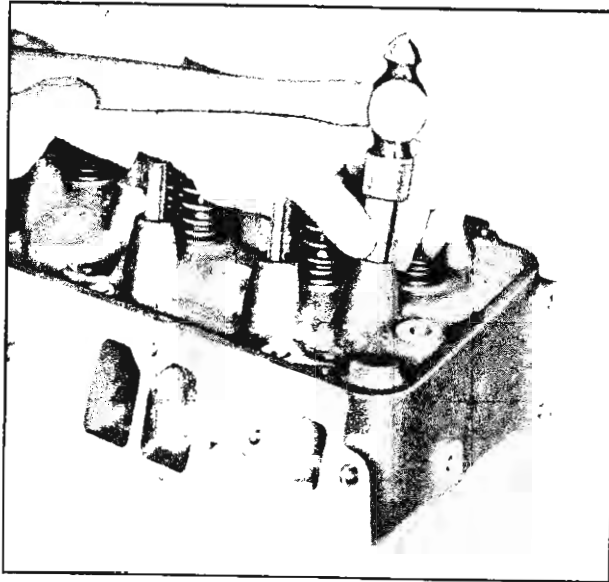

Fig. 125—Installing Valve Rocker Stud
3. Coat press-fit area of stud with hypoid axle lubricant. Install new stud using Tool J-6880. Tool should bottom on head (fig. 125).